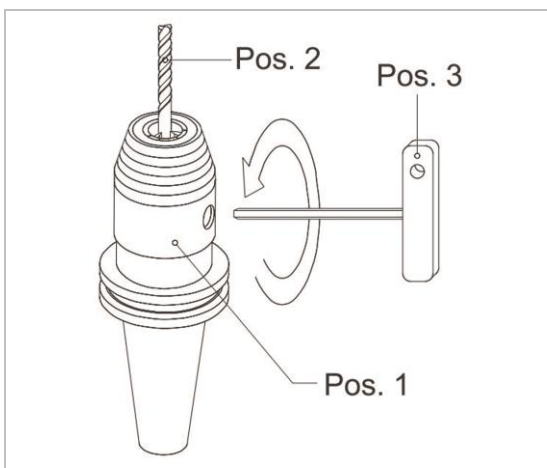

Figure 7: Loosening clamping jaws
1. Loosen the clamping jaws by turning the pinion with **3 to 7** turns counterclockwise using the appropriate hex-wrench (see "Figure 7: Loosening clamping jaws").